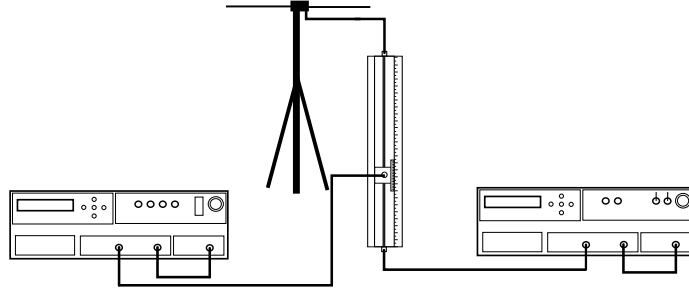

Figure 5: Setup for measuring the $\lambda/2$ wire dipole SWR.
1. Now, remove the short circuit termination and connect the $\lambda/2$ wire dipole instead, see Figure 5.